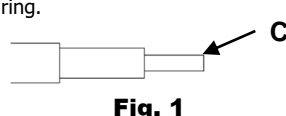
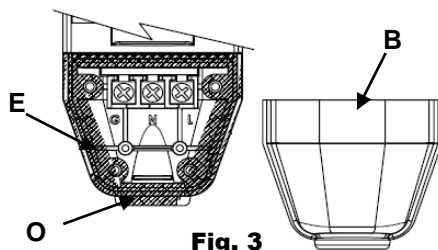

Fig. 1
Fig. 3
- Remove output wire cover "B" from the unit (Fig. 3). Refer to the strip gauge on back of device (Fig. 1), mark, cut and Strip cable outer jacket and conductors "C".